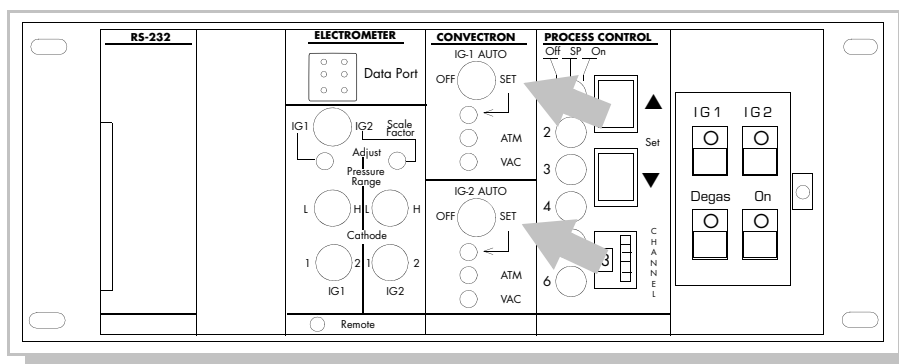

Figure 4-16
2. Place the AUTO switch for IG1 in the SET position. See Figure 4-16.